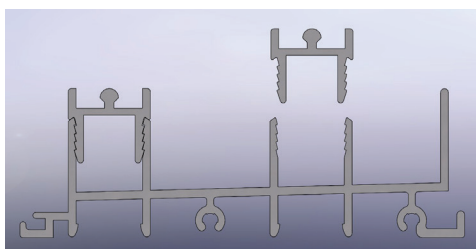

Figure 16
- 13. After** installation screws are sealed, install the sill inserts. There is one insert for each track. (See Figure 16)